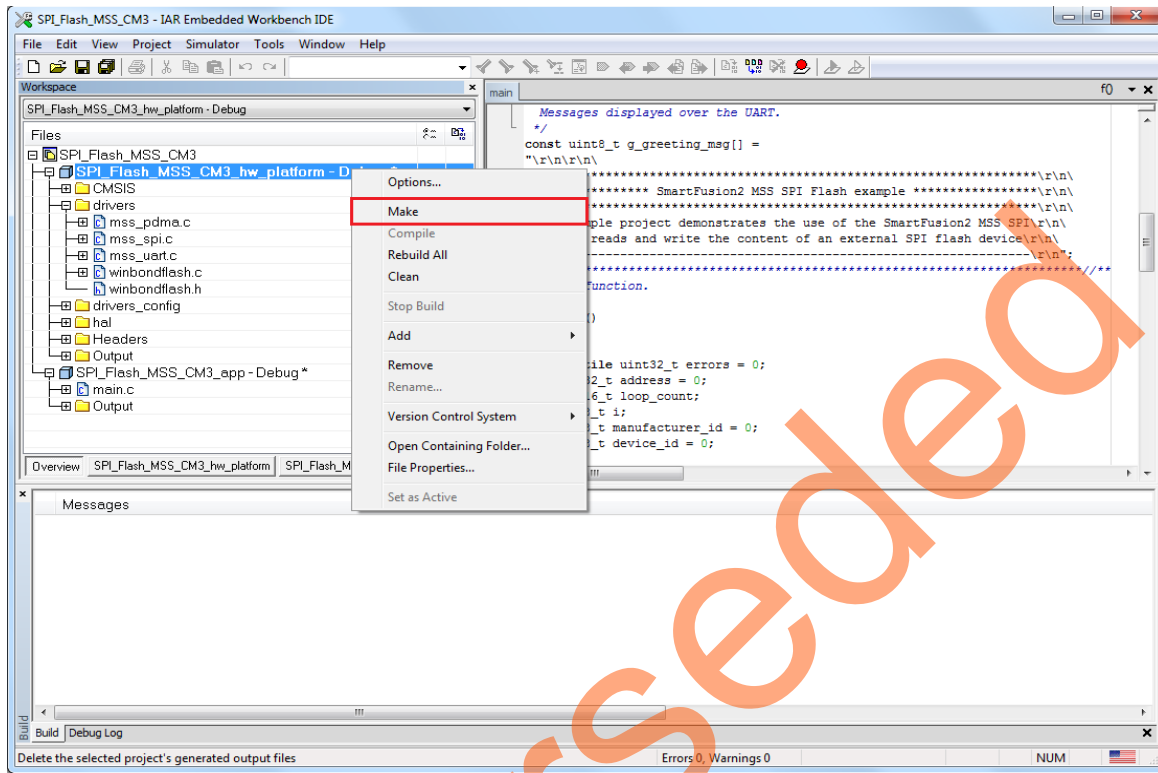
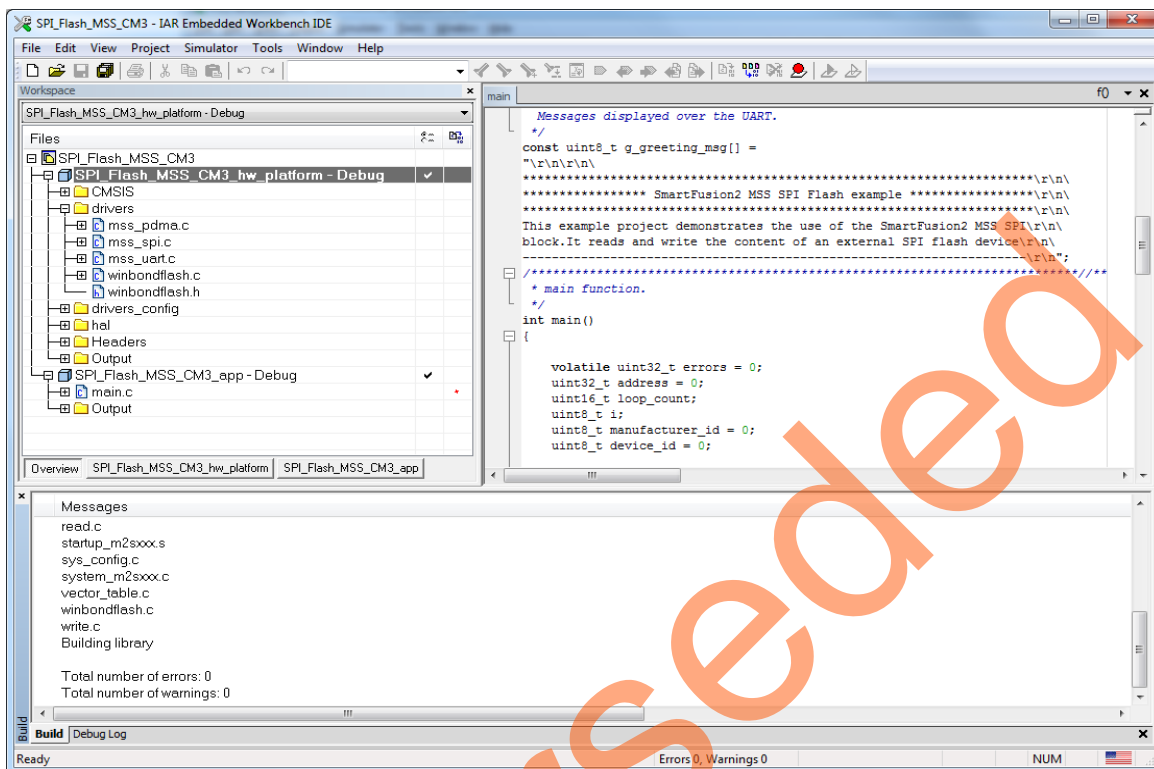

Figure 31 • IAR Workspace - Hardware Platform Code Compilation using Make
Figure 32 • IAR Workspace - Successful Hardware Platform Code Compilation using Make
17. Right-click **SPI_Flash_MSS_CM3_hw_platform - Debug** and select **Make** as shown in (Figure 31 and Figure 32 on page 30).